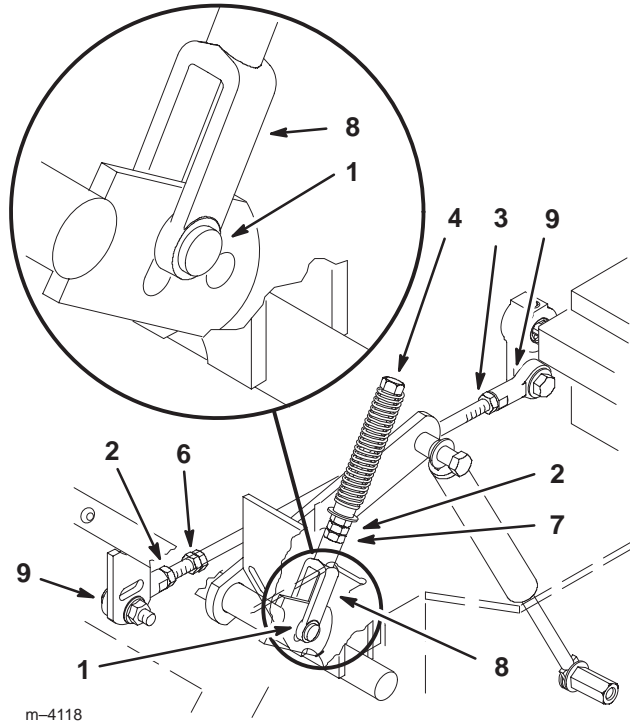

Figure 44
4. Pull lever back until the clevis pin (on arm below pivot shaft) contacts the end of the slot (just beginning to put pressure on the spring) (Fig. 44).
6. If adjustment is needed, loosen the nut and jam nut against the yoke (Fig. 44).
8. Tighten the nut and jam nut (Fig. 44).
1. Loosen the locknuts at the ball joints on pump control rod (Fig. 44).
3. Adjust pump rod length by rotating double nuts on rod, in the appropriate direction, until wheel is still or slightly creeps in reverse (Fig. 44).
6. Tighten the nuts at the ball joints (Fig. 44).